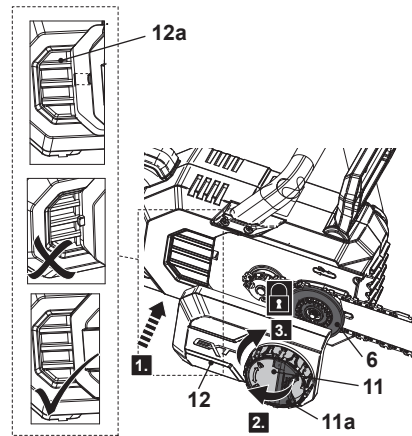

Fig. 6
- Align and place the chain saw cover (12) over the mounting bolt (6); Flip the locking ring (11a) up and hold it, then slightly tighten the locking wheel (11) clockwise (Fig. 6, steps 1, 2, 3). Ensure that the spigot (12a) engages correctly in the slot. Do not tighten the locking wheel (11) completely as saw chain tensioning is required first.